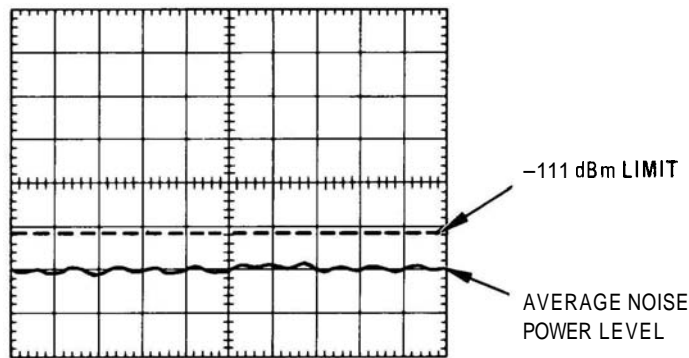

FIGURE 4-13. AVERAGE NOISE LEVEL MEASUREMENT, .01 - 3GHz
- 5. Measure average noise level displayed on CRT (see Figure 4-13) and record results in Table 4-5.